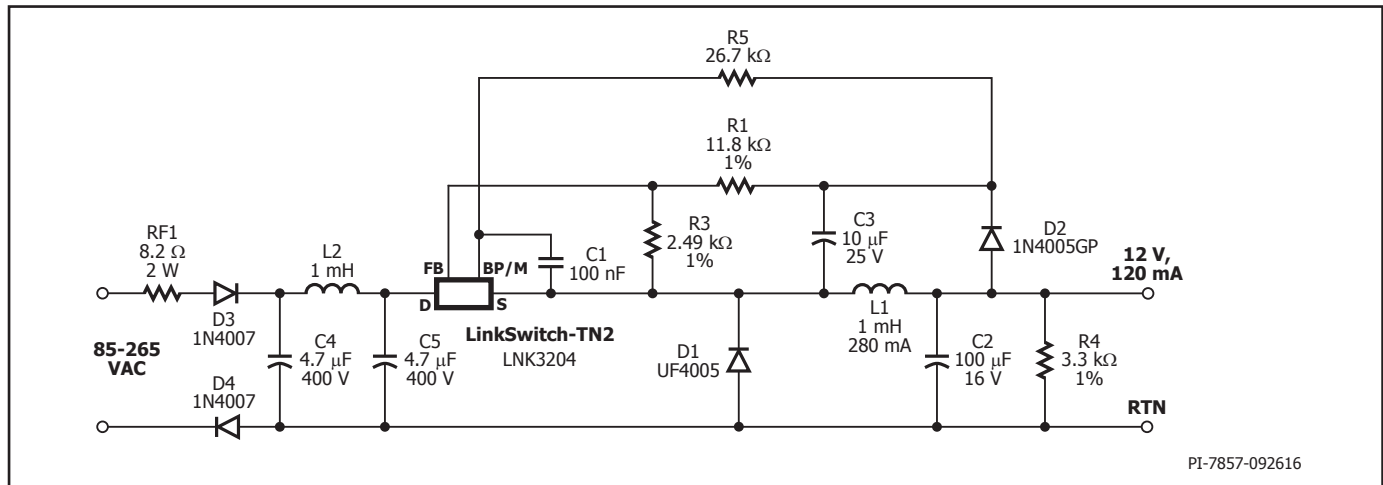
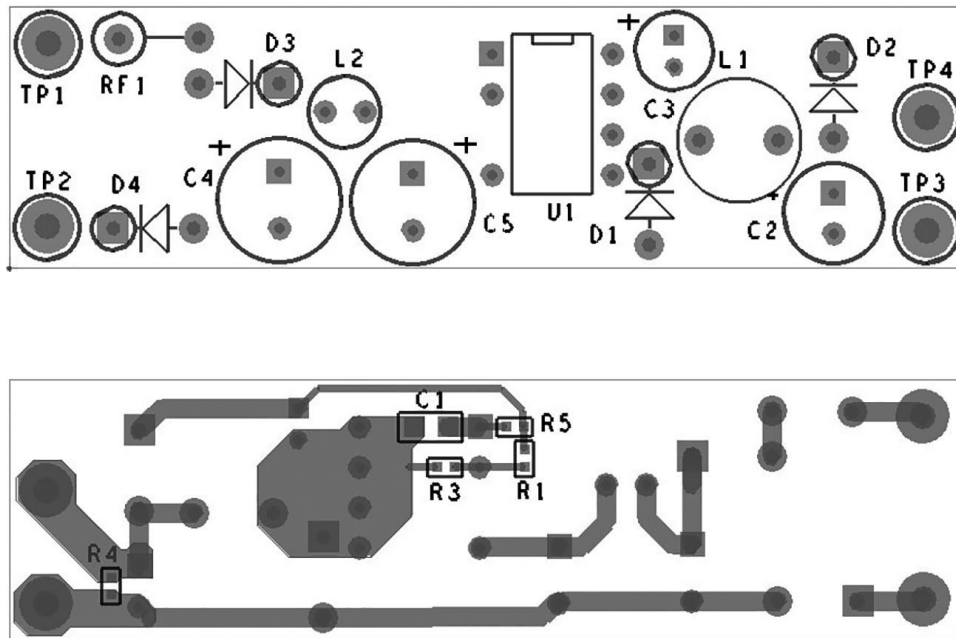

Figure 8. Universal Input, 12 V, 120 mA Constant Voltage Power Supply using LinkSwitch-TN2.
Figure 9a. Recommended Printed Circuit Layout for LinkSwitch-TN2 using P Package.
The circuit shown in Figure 8 is a typical implementation of a 12 V, 120 mA non-isolated power supply used in appliance control such as rice cookers, dishwashers or other white goods. This circuit may also be applicable to other applications such as night-lights, LED drivers, electricity meters, and residential heating controllers, where a non-isolated supply is acceptable.
Regulation is maintained by skipping switching cycles. As the output voltage rises, the current into the FEEDBACK pin will rise. If this exceeds I_{FB} then subsequent cycles will be skipped until the current reduces below I_{FB} . Thus, as the output load is reduced, more cycles will be skipped and if the load increases, fewer cycles are skipped. To provide overload protection if no cycles are skipped during a 50 ms period, LinkSwitch-TN2 will enter auto-restart, limiting the average output power to approximately 3% of the maximum overload power. Due to tracking errors between the output voltage and the voltage across C3 at light load or no-load, a small pre-load may be required (R4). For the design in Figure 8, if regulation to zero load is required, then this value should be reduced to 2.4 kΩ.
Referring to Figure 8, the following considerations may be helpful in selecting components for a LinkSwitch-TN2 design.
Figures 9a, 9b and 9c are printed circuit board layout design examples for the circuit schematic shown in Figure 8. The loop formed between the LinkSwitch-TN2, inductor (L1), freewheeling diode (D1), and output capacitor (C2) should be kept as small as possible. The BYPASS pin capacitor C1 should be located physically close to the SOURCE (S) and BYPASS (BP) pins. To minimize direct coupling from switching nodes, the LinkSwitch-TN2 should be placed away from AC input lines. It may be advantageous to place capacitors C4 and C5 in-between LinkSwitch-TN2 and the AC input. The second rectifier diode D4 is optional, but may be included for better EMI performance and higher line surge withstand capability.